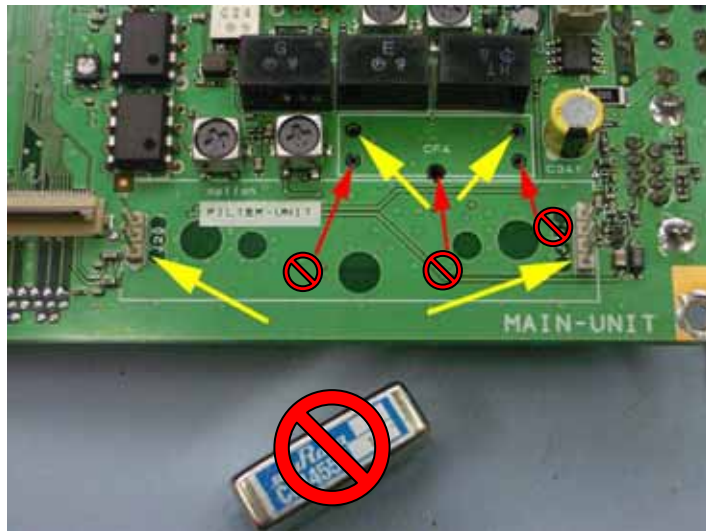

Figure 4
10. Locate the OBF-817 to be installed and notice the two (2) wires coming off on the OBF-817. Now examine Fig. 4 and observe the two holes denoted by yellow arrows in the CF4 area (where the MuRata filter was mounted) and the two (2) connectors (J20 and J21) also shown by yellow arrows. **DO NOT** insert anything into the holes in CF4 denoted by the red arrows.